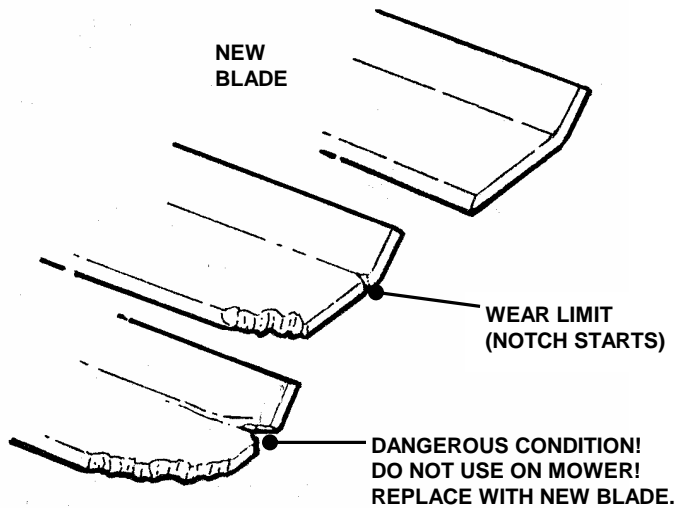

FIGURE 4.1
1. Inspect blade frequently for signs of excessive wear or damage. See Figure 4.1.
2. Replace the blade if it is badly chipped, bent, noticeably out of balance or has cracks or notch in either tip. See Figure 4.1. Replace with new blade.
6. Reinstall blade. See Figure 4.1. Check torque of blade retaining bolts. Recommended torque should be 30 to 40 ft. lbs.